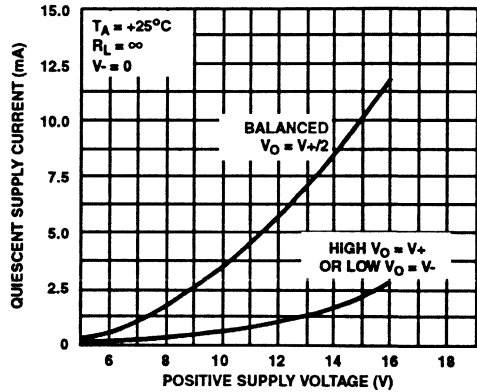

FIGURE 4. QUIESCENT SUPPLY CURRENT vs SUPPLY VOLTAGE
Single supply operation: Initially, let it be assumed that the value of R_L is very high (or disconnected), and that the input-terminal bias (Terminals 2 and 3) is such that the output terminal (No. 6) voltage is at $V+/2$, i.e., the voltage-drops across Q8 and Q12 are of equal magnitude. Figure 4 shows typical quiescent supply-current vs. supply voltage for the CA3160 operated under these conditions.
a corresponding reduction in supply-current. In the extreme case, e.g., with Terminal 8 swung down to ground potential (or tied to ground), NMOS transistor Q12 is completely cut off and the supply current to series connected transistors Q8, Q12 goes essentially to zero. The two preceding stages in the CA3160, however, continue to draw modest supply-current (see the lower curve in Figure 4) even though the output stage is strobed off. Figure 12(A) shows a dual-supply arrangement for the output stage that can also be strobed off, assuming $R_L = \infty$, by pulling the potential of Terminal 8 down to that of Terminal 4.